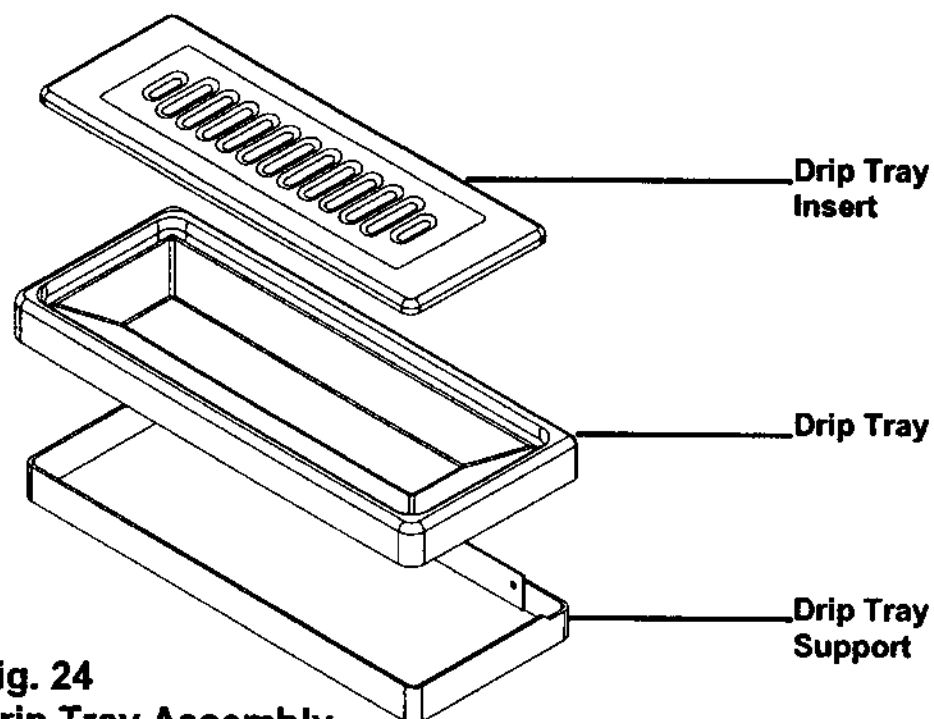

Fig. 24
4. Install the drip tray and drip tray insert (Fig. 24) on the